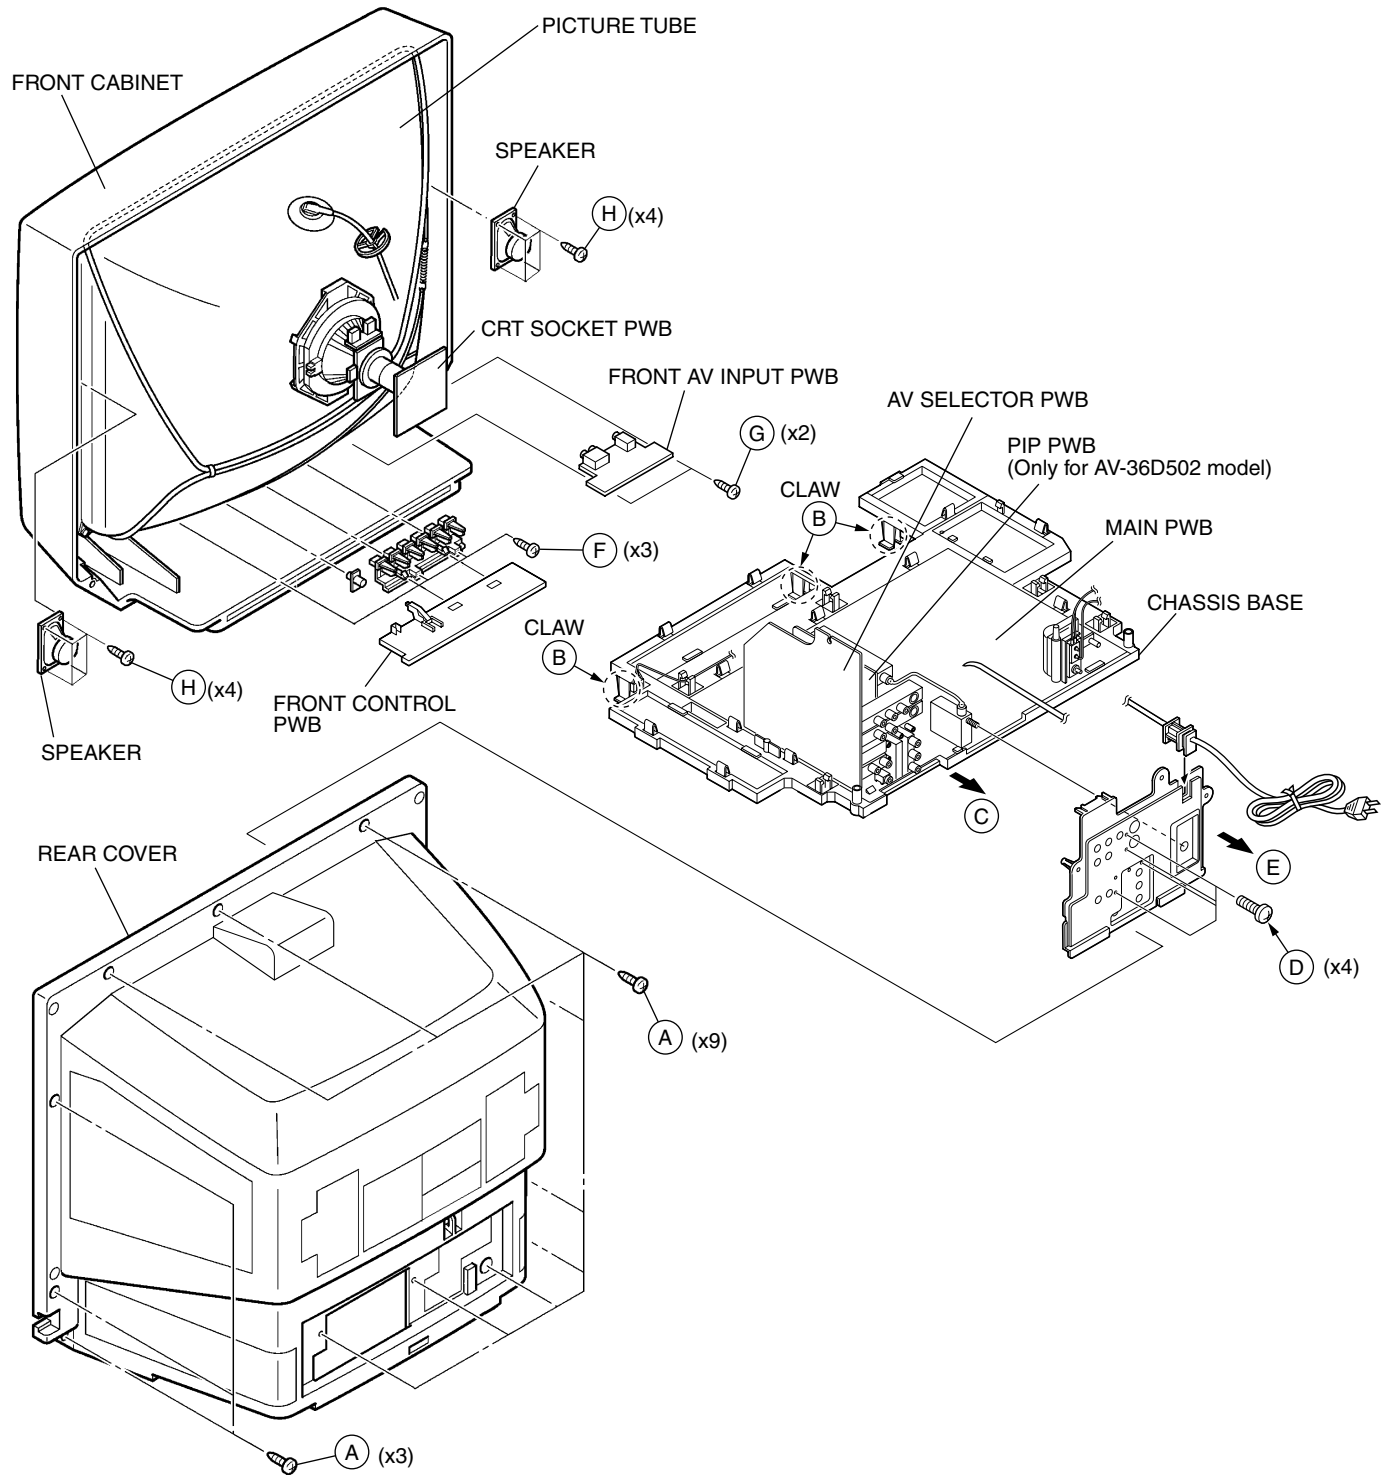
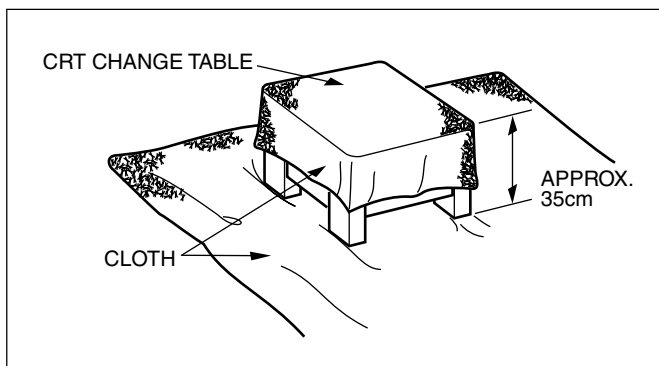

Fig.1
Fig. 2
2. Remove the 12 screws marked (A) as shown in Fig.1.
- 1. Slightly raise the both sides of the chassis by hand and remove the 3 claws marked (B) under the chassis from the front cabinet as shown in Fig.1.
- 2. Withdraw the chassis backward along the rail in the arrow direction marked (C) as shown in Fig.1.
- 1. Remove the 4 screws marked (D) as shown in Fig.1.
- 2. When you pull out the TERMINAL BOARD in the direction of arrow marked (E) as shown in Fig.1, it can be removed.
- 1. Remove the 3 screws marked (F) and the 2 screws marked (G) as shown in Fig.1.
- 1. Remove the 4 screws marked (H) as shown in Fig.1.
- 1. Putting the CRT change table on soft cloth, the CRT change table should also be covered with such soft cloth (shown in Fig. 2).
(1) Power off Switch off the power and disconnect the power cord from the outlet.
(2) Replace the memory IC Initial value must be entered into the new IC.
(3) Power on Connect the power cord to the outlet and switch on the power.
(4) System constant check and setting <ol style="list-style-type: none"> 1) Press SLEEP TIMER key and, while the indication of "SLEEP TIMER 0 MIN." is being displayed, press DISPLAY key and VIDEO STATUS key on the remote control unit simultaneously. 2) The SERVICE MENU screen of Fig.1 is displayed. 3) While the SERVICE MENU is displayed, again simultaneously press the DISPLAY and VIDEO STATUS keys to display the Fig.2 SYSTEM CONSTANT screen. 4) Refer to the SYSTEM CONSTANT table and check the setting items. Where these differ, select the setting item with the MENU UP/DOWN key and adjust the setting with the MENU LEFT/RIGHT keys. (The letters of the selected item are displayed in yellow.) 5) After adjusting, release the MENU LEFT/RIGHT key to store the setting value. 6) Press the EXIT key twice to return the normal screen. 	<div data-bbox="1036 814 1455 1123"> </div> <p>[AV-36D202, AV-36D302]</p> <div data-bbox="1036 1180 1455 1488"> </div> <p>[AV-36D502]</p> <p>Fig.1</p> <div data-bbox="1036 1587 1455 1896"> </div> <p>Fig.2</p>
(5) Receive channel setting Refer to the OPERATING INSTRUCTIONS(USER'S GUIDE) and set the receive channels (Channels Preset) as described.
(6) User settings Check the user setting items according to Table 2. Where these do not agree, refer to the OPERATING INSTRUCTIONS (USER'S GUIDE) and set the items as described.
(7) SERVICE MENU setting Verify what to set in the SERVICE MENU, and set whatever is necessary.(Fig.1) Refer to the SERVICE ADJUSTMENT for setting.